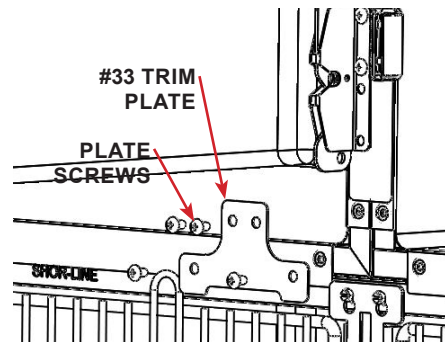

FIGURE 2.41 - Trim Plate #33
**STEP 18:** Remove the bottom trim plate screws (4 each) from both cages to be attached. See FIGURE 2.41
**STEP 19:** Install, but do NOT fully tighten screws, trim plate (#33) using the screws removed in the previous step. Trim plate (#33) is notched to compensate for a double door latch assembly on the cage below. See FIGURE 2.41